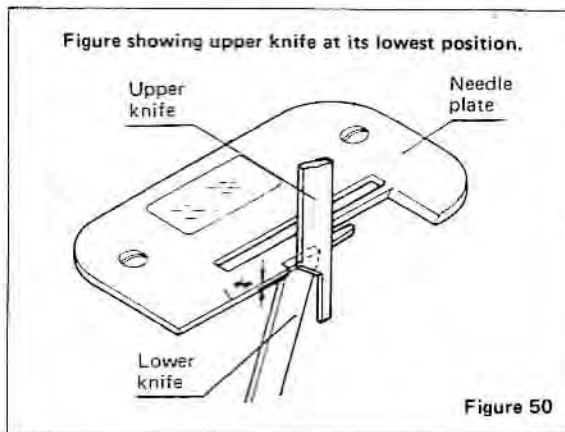

Figure 50
5. Align upper knife so that it overlaps lower front cutting edge 1 mm (Figure 50).